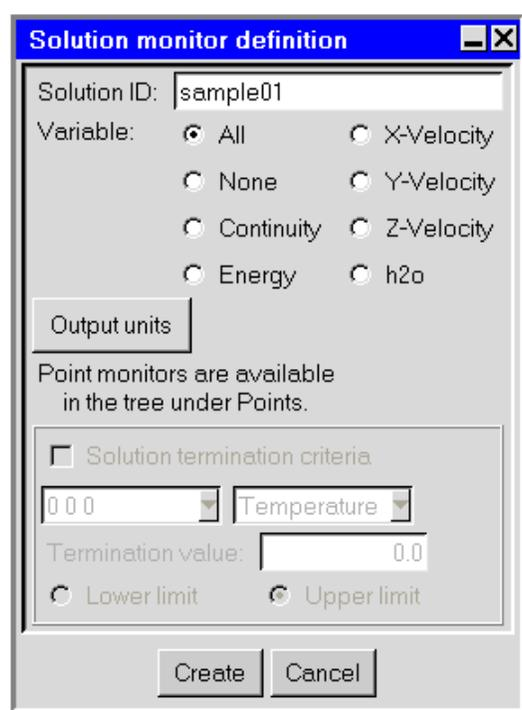

Figure 27.11.18: Solution monitor definition Panel
4. Once the iteration starts and the Calculate Solution progress is reported in the runsrf panel, you can create a convergence plot to monitor the solution. (Figure 27.11.18)